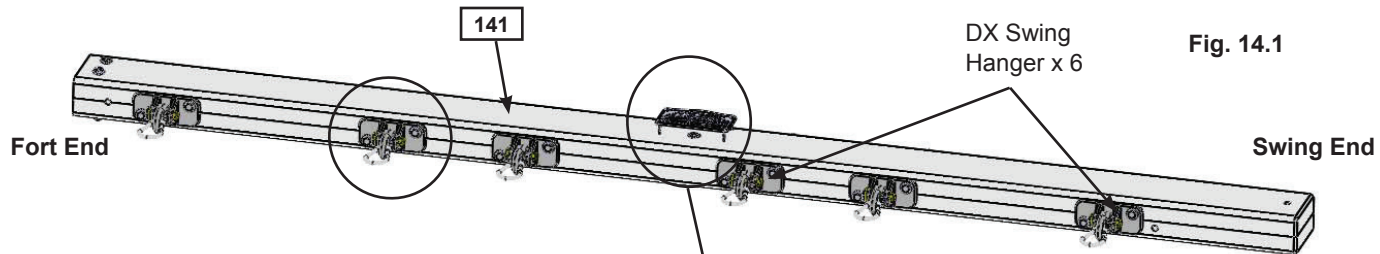

Fig. 14.1
A: Attach 6 DX Swing Hangers to (141) Engineered SW Beam using 2 (G13) 5/16 x 6-1/8" Hex Bolt (with 2 flat washers, plastic formed washer and lock nut) per swing hanger, as shown in (fig. 14.1 and 14.2).
C: Install 1 (WB7) 5/16 x 3" Wafer Bolt (with flat washer and t-nut) in the middle bolt hole, from the bottom up, in (141) Engineered SW Beam as shown in (fig. 14.1 and 14.4). **IT IS IMPORTANT THAT THIS BOLT IS ATTACHED. IT WILL MINIMIZE CHECKING OF WOOD.**